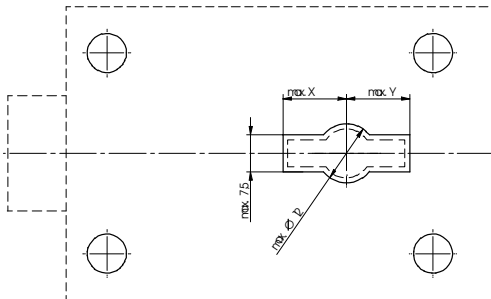

Fig. 3: Max. cross sectional area of keyhole
- In cases where the Kaba Mauer key guide is not used, the maximum cross sectional area of the keyhole in the door of the secure storage unit and/or the lock armour plating may not exceed the dimensions given in Fig. 3 considering DIN 2768-mH.